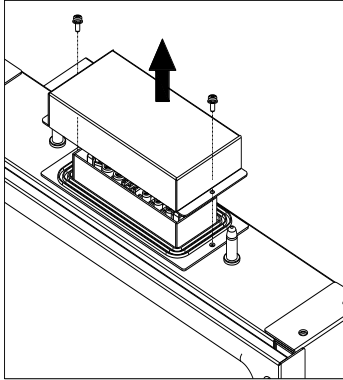
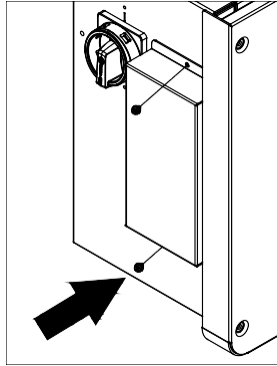

Figure 3-12 Wiring Bulkhead Cover
Figure 3-15 Attach the Cover to the left side of the Wiring Box
- (c) Save the bulkhead cover and screws, and attach the cover to the left side of the wirebox after the wirebox is attached to the inverter enclosure. Covers may be required in the future if an inverter or wirebox is to be removed during servicing (see step 6, Figure 3-15). Tool required: No.2 Phillips head screwdriver
Step 6 Attach the bulkhead cover shown in Figure 3-12 to the left side of the wiring box. (See Figure 3-15). Tool required: No. 2 Phillips head screwdriver, torque value of 1.6N.m (14.2in-lbs)